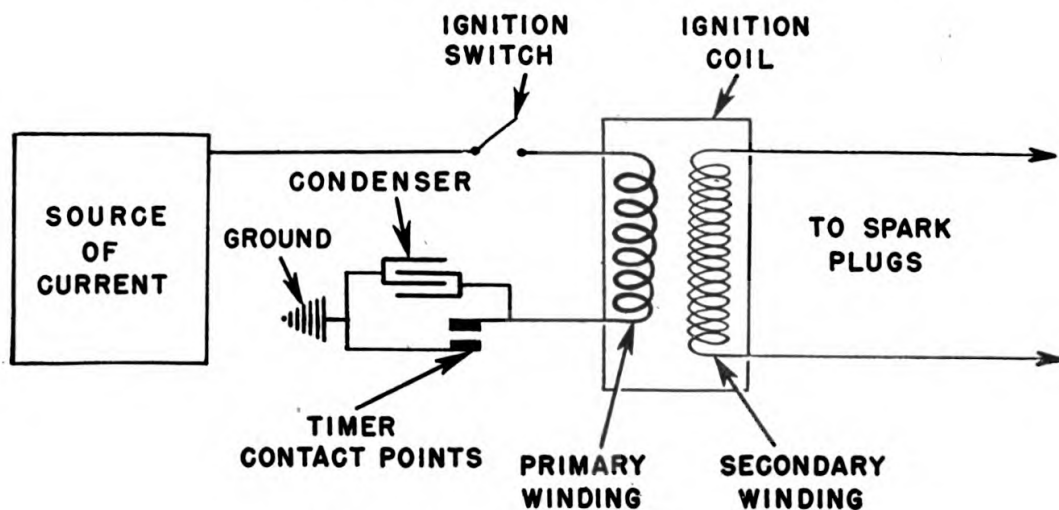

FIGURE 96.—Wiring of ignition system.
**78. Ignition system** (fig. 96).—*a.* The ignition system supplies and controls high-voltage electrical energy to the spark plugs in order to ignite fuel vapors in the combustion chambers. This requires precision-built electrical and mechanical parts which operate efficiently. In addition to its source of electrical energy (battery or generator), the system includes an ignition switch, timer (circuit-breaker), ignition coil, condenser, and spark plugs. On the Indian, an automotive type distributor is also used.